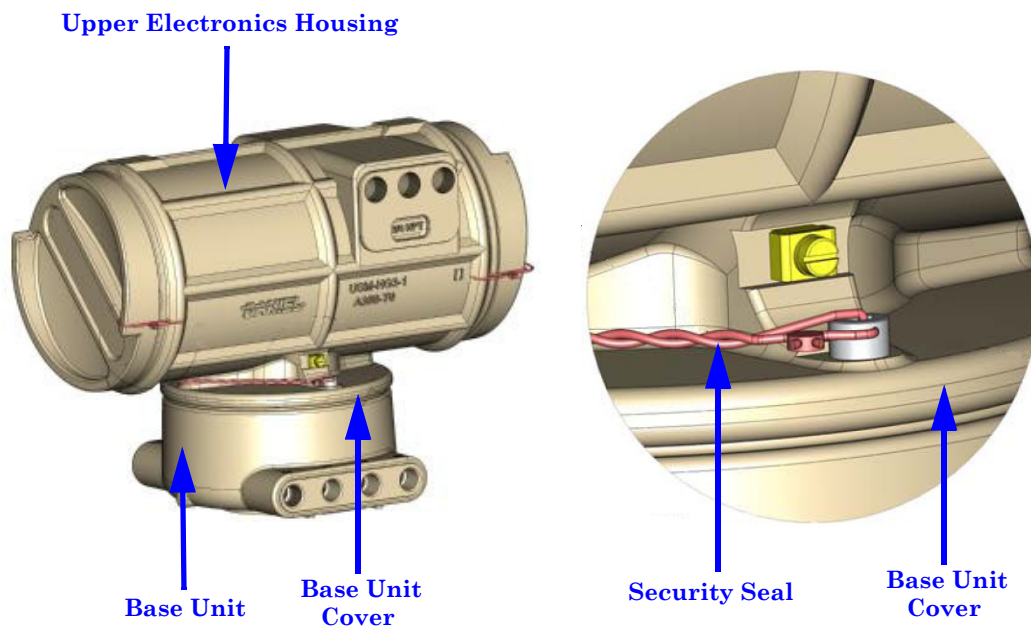

Figure 3-28 Upper Electronics Housing to Base Unit Security Seal
1. Install security wire seal into and through the holes in the two socket head screws on the Base Unit cover (maximum wire diameter .078 inch; 2.0mm) (see Figure 3-28).